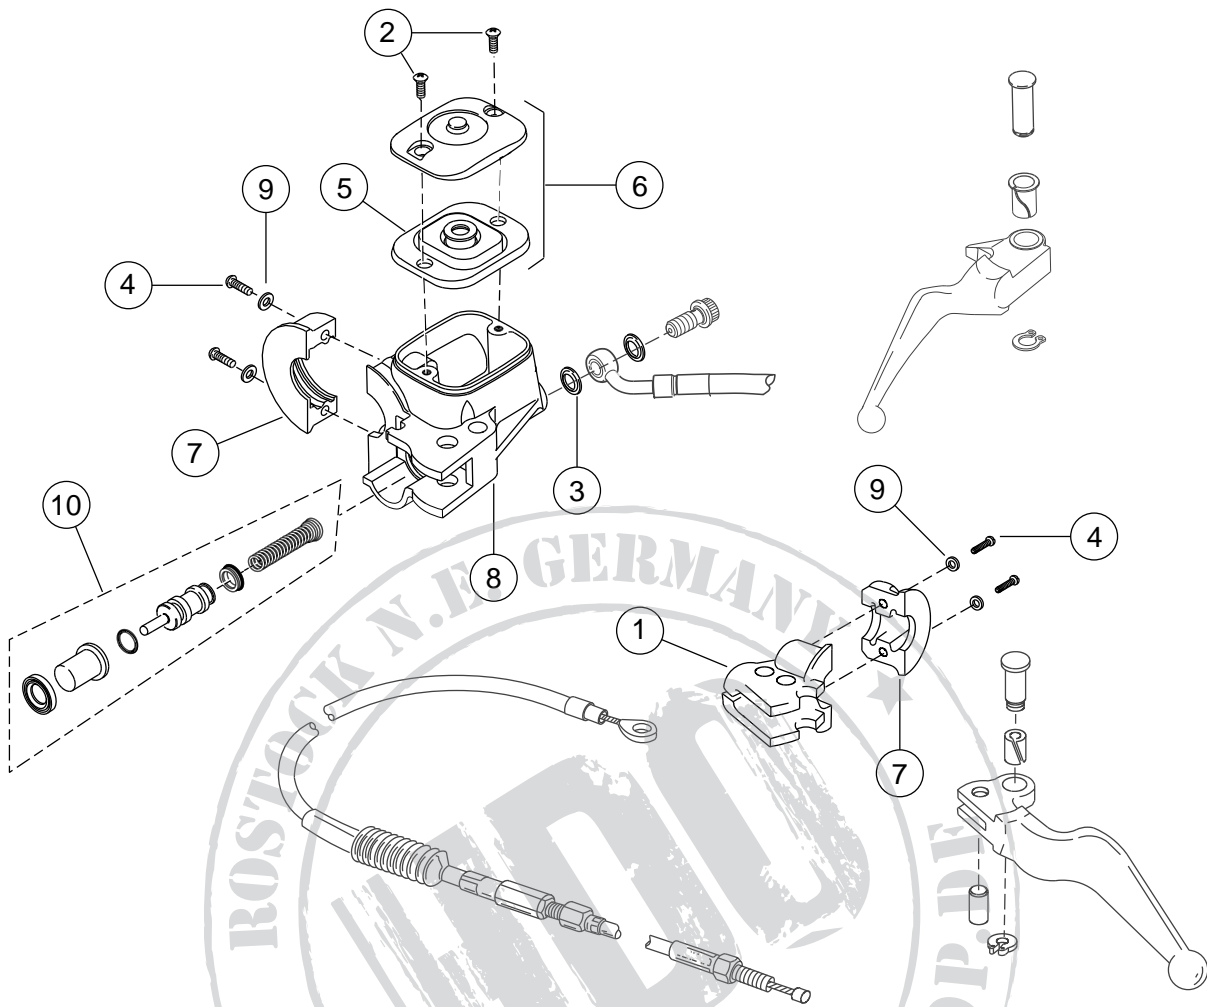

Figure 9. Service Parts: Chrome Front Brake Master Cylinder Kit
1. See Figure 9. Install the clutch cable and anchor pin in the clutch hand lever. The flat in the pin must face in towards the hand lever.